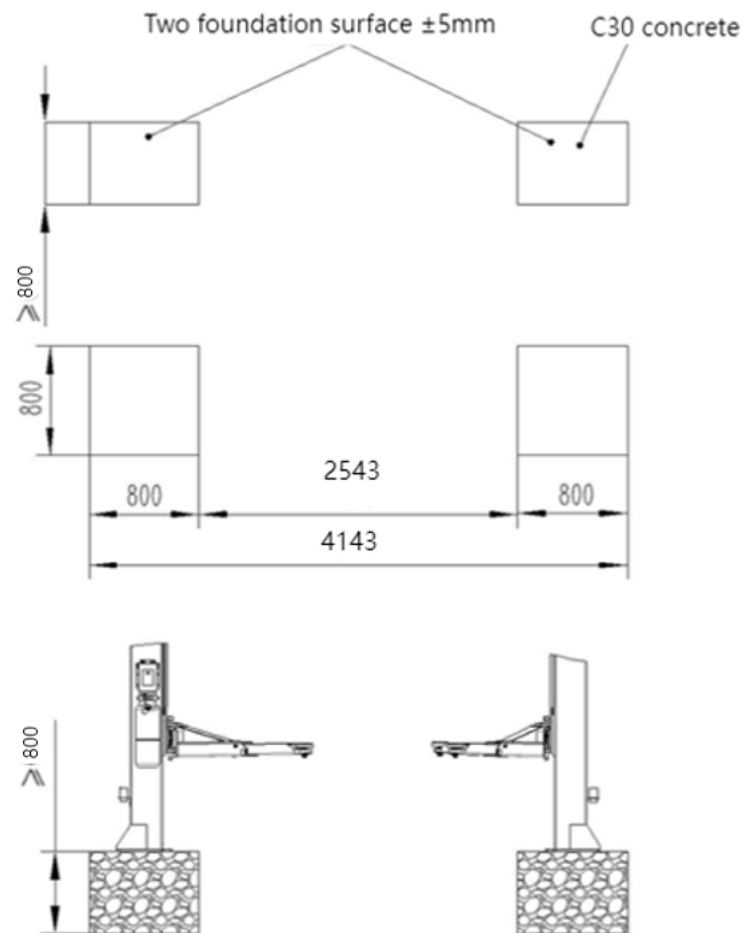

Figure 3 Lifting machine foundation size diagram (unit: mm)
7.2 The lifting machine must be installed on concrete foundations with C30 grade concrete, a thickness exceeding 600mm, and a horizontal deviation under 5mm. Newly poured concrete must remain dry for at least 20 days (see Figure 3). To ensure